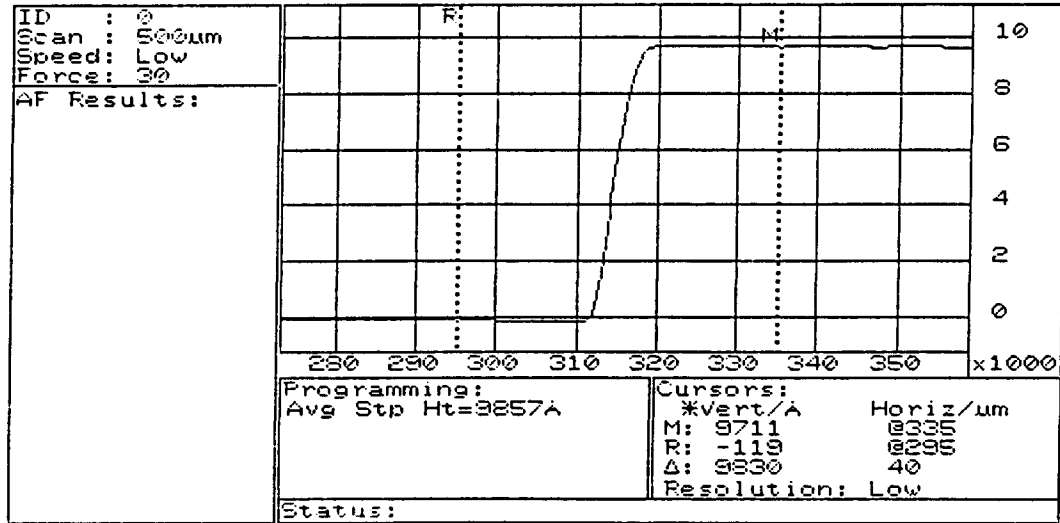

Figure 7-5. Calibrated Step Height
9. Program the M cursor 40 microns to the right of the R cursor. Press **ASH** (Figure 7-5).